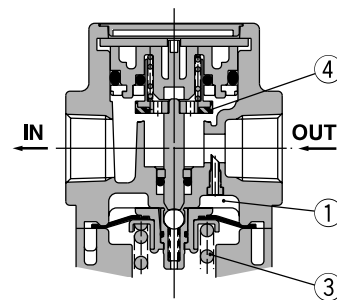

Figure 2 Backflow
When the inlet pressure is higher than the regulating pressure, the check valve ② closes and operates as a normal regulator (Figure 1). When the inlet pressure is shut off and released, the check valve ② opens and the pressure in the diaphragm chamber ① is released into the inlet side (Figure 2). This lowers the pressure in the diaphragm chamber ① and the force generated by the pressure regulator spring ③ lifts the diaphragm. Valve ④ opens through the stem, and the outlet pressure is released to the inlet side (Figure 2).